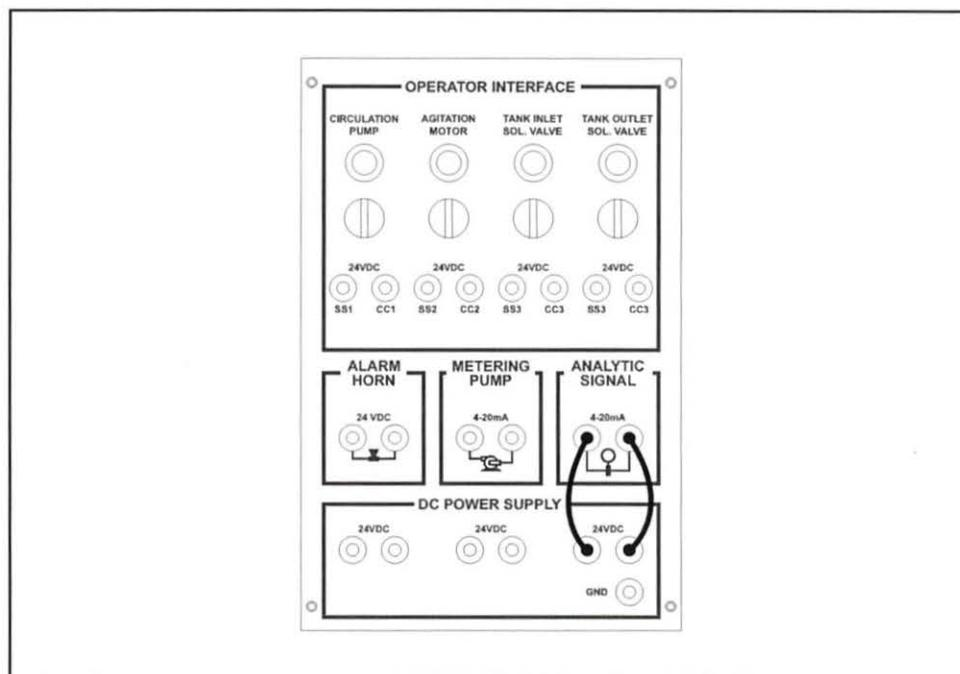

Figure 32. Connections to Supply 24VDC to DL421 Module
B. Connect the output jacks labeled Analytical Signal to the 24VDC power supply jacks, as shown in figure 32.